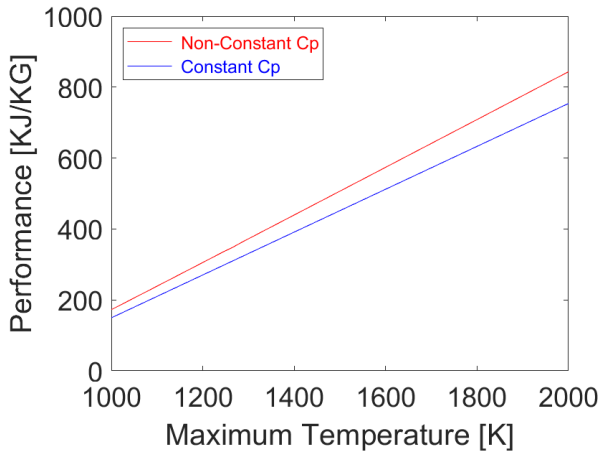

Figure 2 - Varying performance with changes in combustor maximum temperature
- Figure 2 illustrates the linear rise in performance with an increase in maximum combustor temperature.